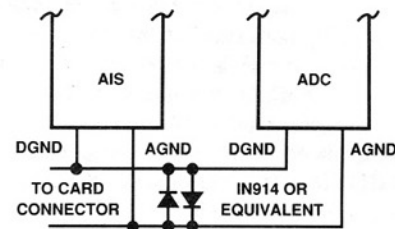

Figure 11. Ground-Fault Protection Diodes
**Grounding:** Analog and digital signal grounds should be kept separate where possible to prevent digital signals from flowing in the analog ground circuit and inducing spurious analog signal noise. Analog Ground (Pin 17) and Digital Ground (Pin 2) are not connected internally; these pins must be connected externally for the system to operate properly. Preferably, this connection is made at only one point, as close to the AIS, as possible. The case is connected internally to Digital Ground to provide good electrostatic shielding. If the grounds are not tied common on the same card with the AIS they should be connected with back-to-back general purpose diodes as shown in Figure 11. This will protect the AIS from possible damage caused by voltages in excess of ±1 volt between the ground systems which could occur if the key grounding card should be removed from the overall system. The device will operate properly with as much as ±200 mV between grounds, however this difference will be reflected directly as an input offset voltage.